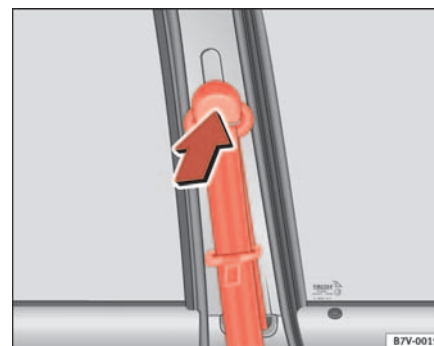

Fig. 21 Location of the belt height adjuster
- Press the upper part ⇒ fig. 21 of the shoulder belt guide in the direction of the arrow and hold it in this position.